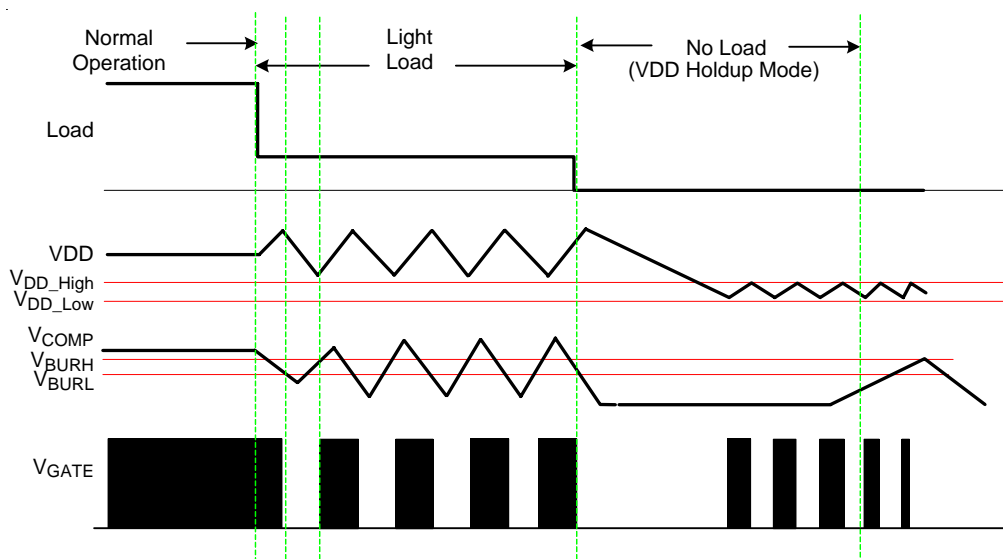

Figure 3. Burst Triple-Mode
To fulfill green mode requirement, there are 3 operation modes in R7731. Please also refer to Figure. 3 for details.
- **Burst Mode** : During light load, switching loss will dominate the power efficiency calculation. This mode is to cut switching loss. As shown in Figure 3, when the output load gets light, feedback signal drops and touches  $V_{burL}$ . Clock signal will be blanked and system ceases to switching. After  $V_{OUT}$  drops and feedback